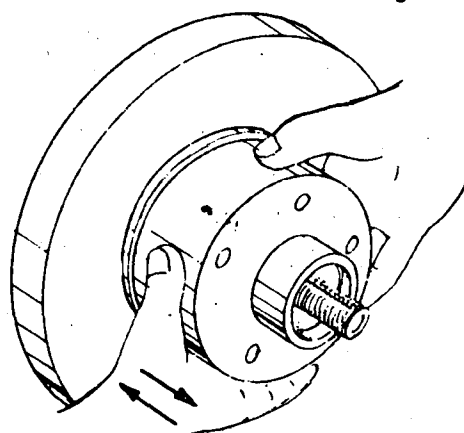

Fig. 1
- b) Pull the drum, approximately 2 cms. outwards, then push it back inwards and remove the washer and the outer bearing of the hub. (fig. 1).